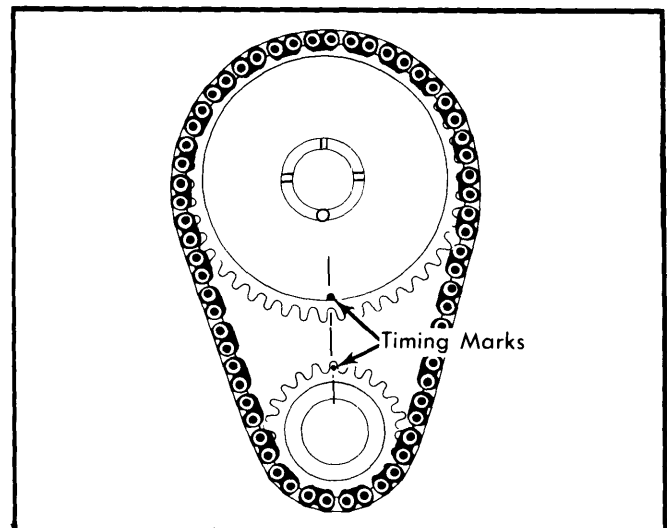

Fig. 16 Aligning Timing Sprocket Marks
**Removal** - Remove front engine cover as previously outlined. Remove fuel pump outlet line and mounting bolts. Lay fuel pump to side. Crank engine over until timing marks are aligned as shown in illustration (see Fig. 16). Remove camshaft sprocket bolt. Remove washer and two piece fuel pump eccentric. Slide both sprockets and timing chain forward to remove.
**Installation** - Position timing chain on sprockets, aligning timing marks as shown in illustration (see Fig. 16). Slide timing